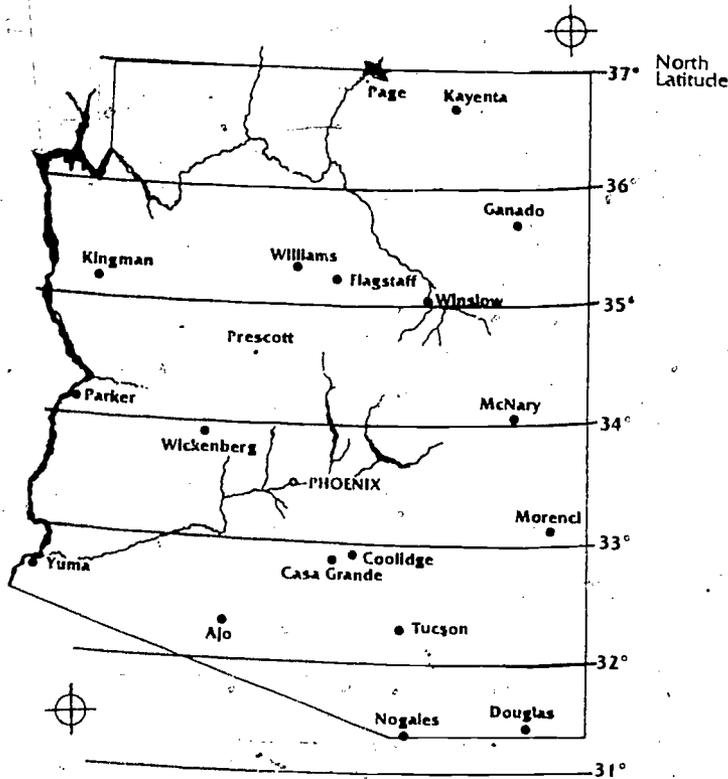
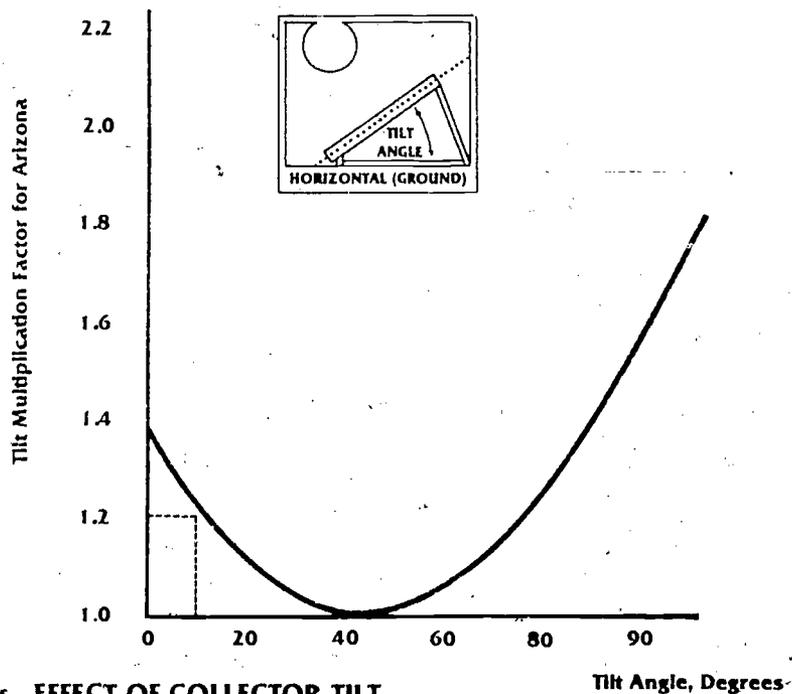

Figure VI-4 LATITUDE LINES OF ARIZONA
Figure VI-5 EFFECT OF COLLECTOR TILT
- Step 3. (W) Select from Table VI-2 the weather factor (W) of the city nearest the house.
- Step 4. (T) Determine the latitude from Figure VI-4. If the collector tilt is going to be latitude, plus 10° , the tilt factor is 1.0. If not, determine from Figure VI-5 the tilt multiplication factor (T).
10°. This angle maximizes annual amount of sunshine falling on a flat-plate tilted collector fixed in position throughout the year. However, the effect of tilt angle variation is small so long as it is within reason. This is indicated by the tilt multiplication factor graph for Figure VI-5. This graph is valid for all locations in Arizona. The dotted lines show that for a roof pitch of 11 degrees (corresponds to a pitch of 1 in 5), the tilt multiplication factor is only 1.2.
4. Determine tilt multiplication factor from Figure VI-5.